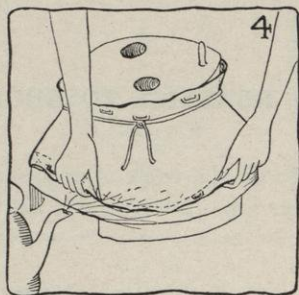

FIG. 4.
- g. Stretch felt gently and evenly over the surface of the block so that it extends beyond the edge of the block (see Figure 4).